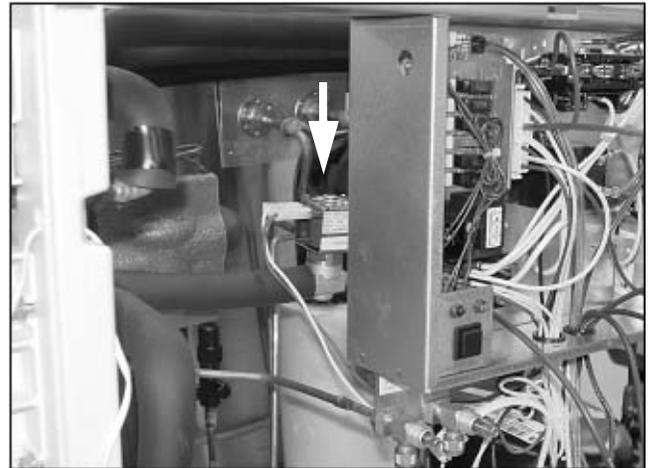

FIGURE 13
10. Disconnect the plugs from the Hot Gas Solenoid Valve (FIGURE 13).